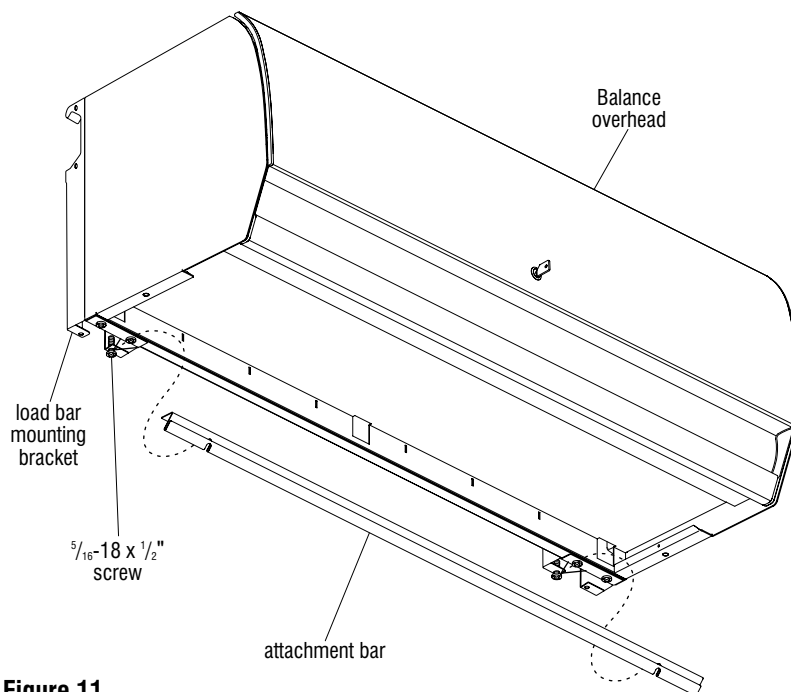

**Figure 10**
**Note:** Overhead units installed to panel systems with on-module mounting brackets may utilize a tack board or tool rail which is attached directly to the overhead via an attachment bar assembled to the overhead unit (Figure 10).
1. To install attachment bar to on-module mounting bracket, locate and loosen the two  $\frac{5}{16}$ -18 x  $\frac{1}{2}$ " screws which attach the mounting brackets to the underside of the Balance overhead unit. Turn each screw out about  $\frac{1}{8}$ " to allow for installation (Figure 10).
2. Orient the attachment bar as illustrated, align the slots in the attachment bar with the loosened screws and slide into place. Re-tighten the two screws to secure attachment bar in place (Figure 10).